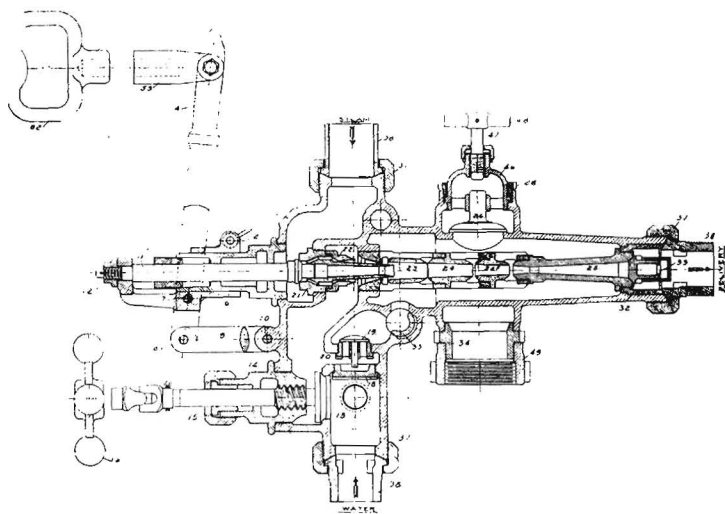

Fig. 4
17. Figure 4 is a sectional view of the Nathan Manufacturing Company's simplex injector. This type of injector is designed to be self-regulating under variations in steam pressure. Also, it has a restarting feature.